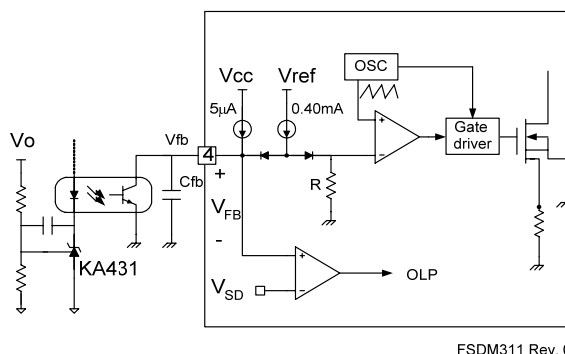

Figure 17. PWM and Feedback Circuit
2. Feedback Control: The FSDM311 is a voltage-mode controlled device, as shown in Figure 17. Usually, an opto-coupler with shunt regulator, like KA431, is used to implement the feedback network. The feedback voltage is compared with an internally generated sawtooth waveform, which directly controls the duty cycle. When the KA431 reference pin voltage exceeds the internal reference voltage of 2.5V, the opto-coupler LED current increases, the feedback voltage Vfb is pulled down, and it reduces the duty cycle. This happens when the input voltage increases or the output load decreases.